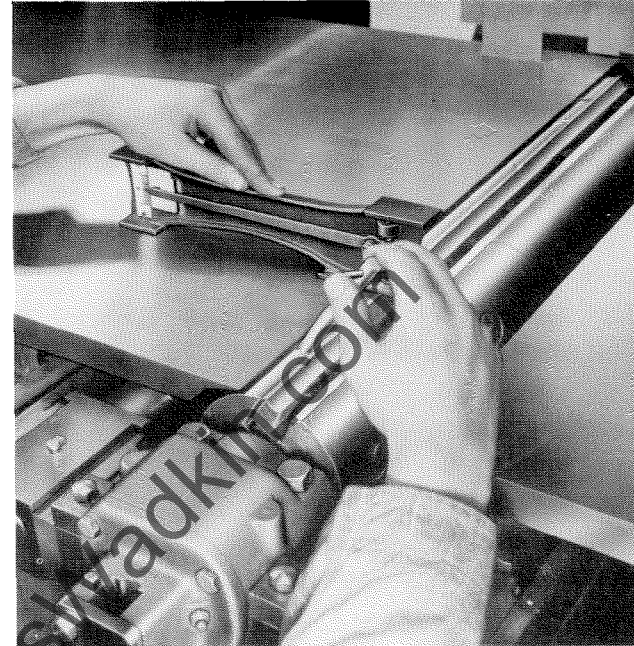

FIG. 15 PRECISION CUTTER SETTER
5. Place the cutter setter on the back table allowing it to project over the cutterblock as Fig. 15.